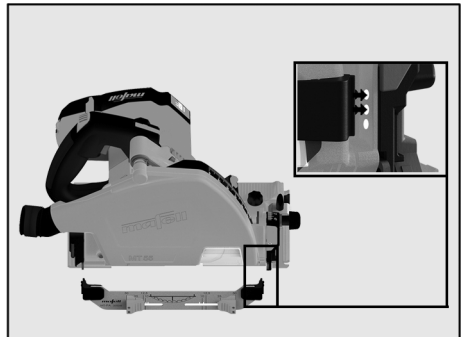

Fig. 28: Clamping the position indicator – working without a guide rail
- Use the two upper holes without a guide rail (see Fig. 28).